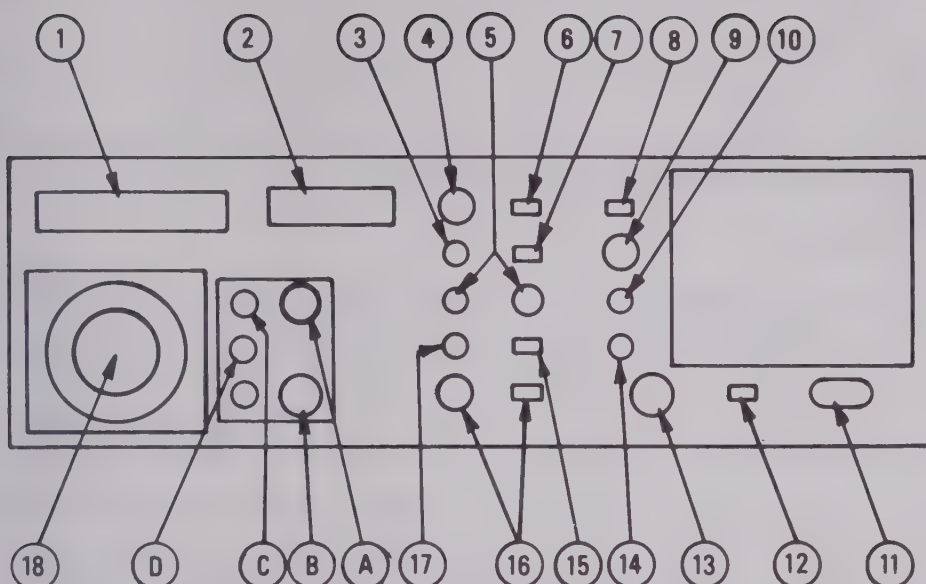

Fig. 2 Rear panel controls and connectors
3. Rear panel. The identification and function of connectors and controls located on the rear panel for both the mainframe (encircled numbers) and an r.f. unit (encircled letters) are shown in Fig. 2.
18. The centre frequency may also be remotely determined via the terminal strip (TB1 in Fig. 2) located on the rear panel. When jumpers linking terminals 8 to 9 and 10 to 11 are removed, remote voltage from 0 to -10 V (applied to terminal 9 with respect to terminal 7) will linearly control the centre frequency over the full range. A potentiometer (1 k Ω recommended) or a resistor divider placed at terminals 7, 9 and 11 will also determine the centre frequency over its full range.